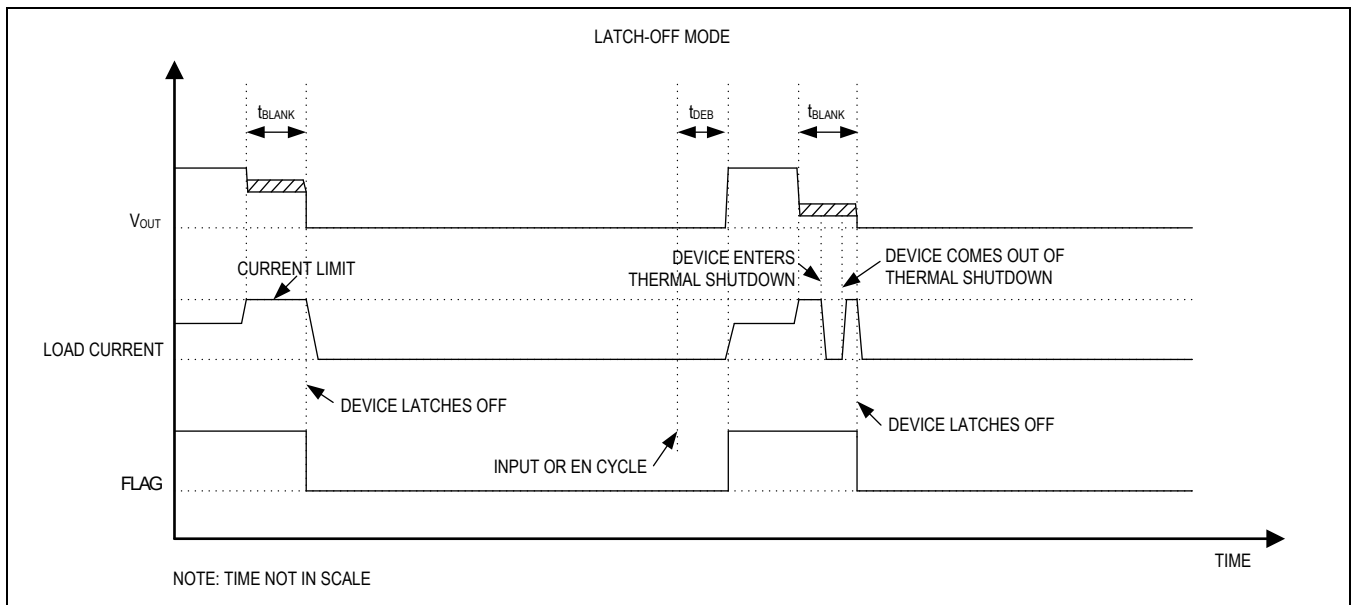

Figure 5. Latch-Off Fault-Timing Diagram
In latch-off current-limit mode, when current through the device reaches the current-limit threshold, the t_{BLANK} timer begins counting. The \overline{FLAG} pin asserts if an overcurrent condition is present for a period more than t_{BLANK} . The timer resets when the overcurrent condition disappears before t_{BLANK} has elapsed. If the device enters thermal shutdown mode, the output Q2 FET turns off and it turns back on after the junction temperature cools down by $T_{J(HYS)}$. The device turns off and stays off if the overcurrent condition continues beyond t_{BLANK} . To reset the device, either toggle the control logic (EN) or cycle the input voltage. Figure 5 depicts typical behavior in latch-off current-limit mode.